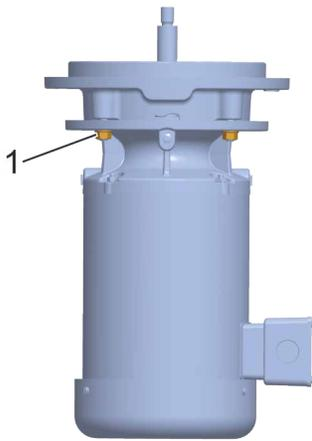

Fig. 63 Nuts for fastening the intermediate casing (example: herborner.F-N)
13. Remove the nuts for fastening the intermediate casing (Fig. 63/1) on all sides and place them to one side for later assembly along with the washers.